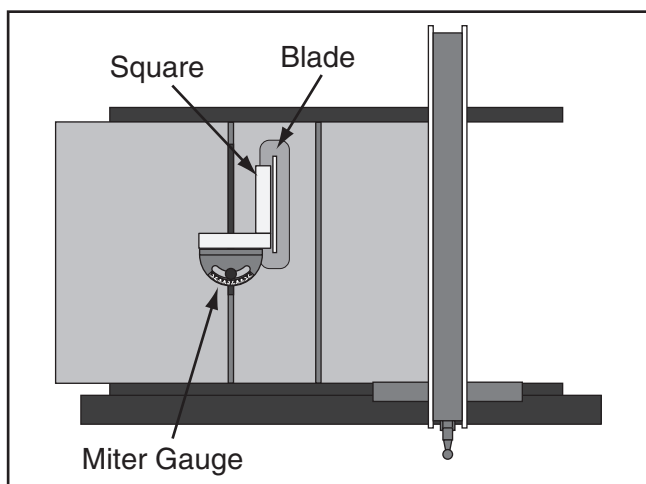

Figure 123. Checking 90° stop on miter gauge.
4. Place the square evenly against the face of the miter gauge and the blade, as shown in **Figure 123**.